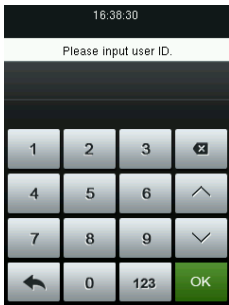

figure 3
1. In initial interface, press  to enter the user ID input interface, shown as **figure 3**.